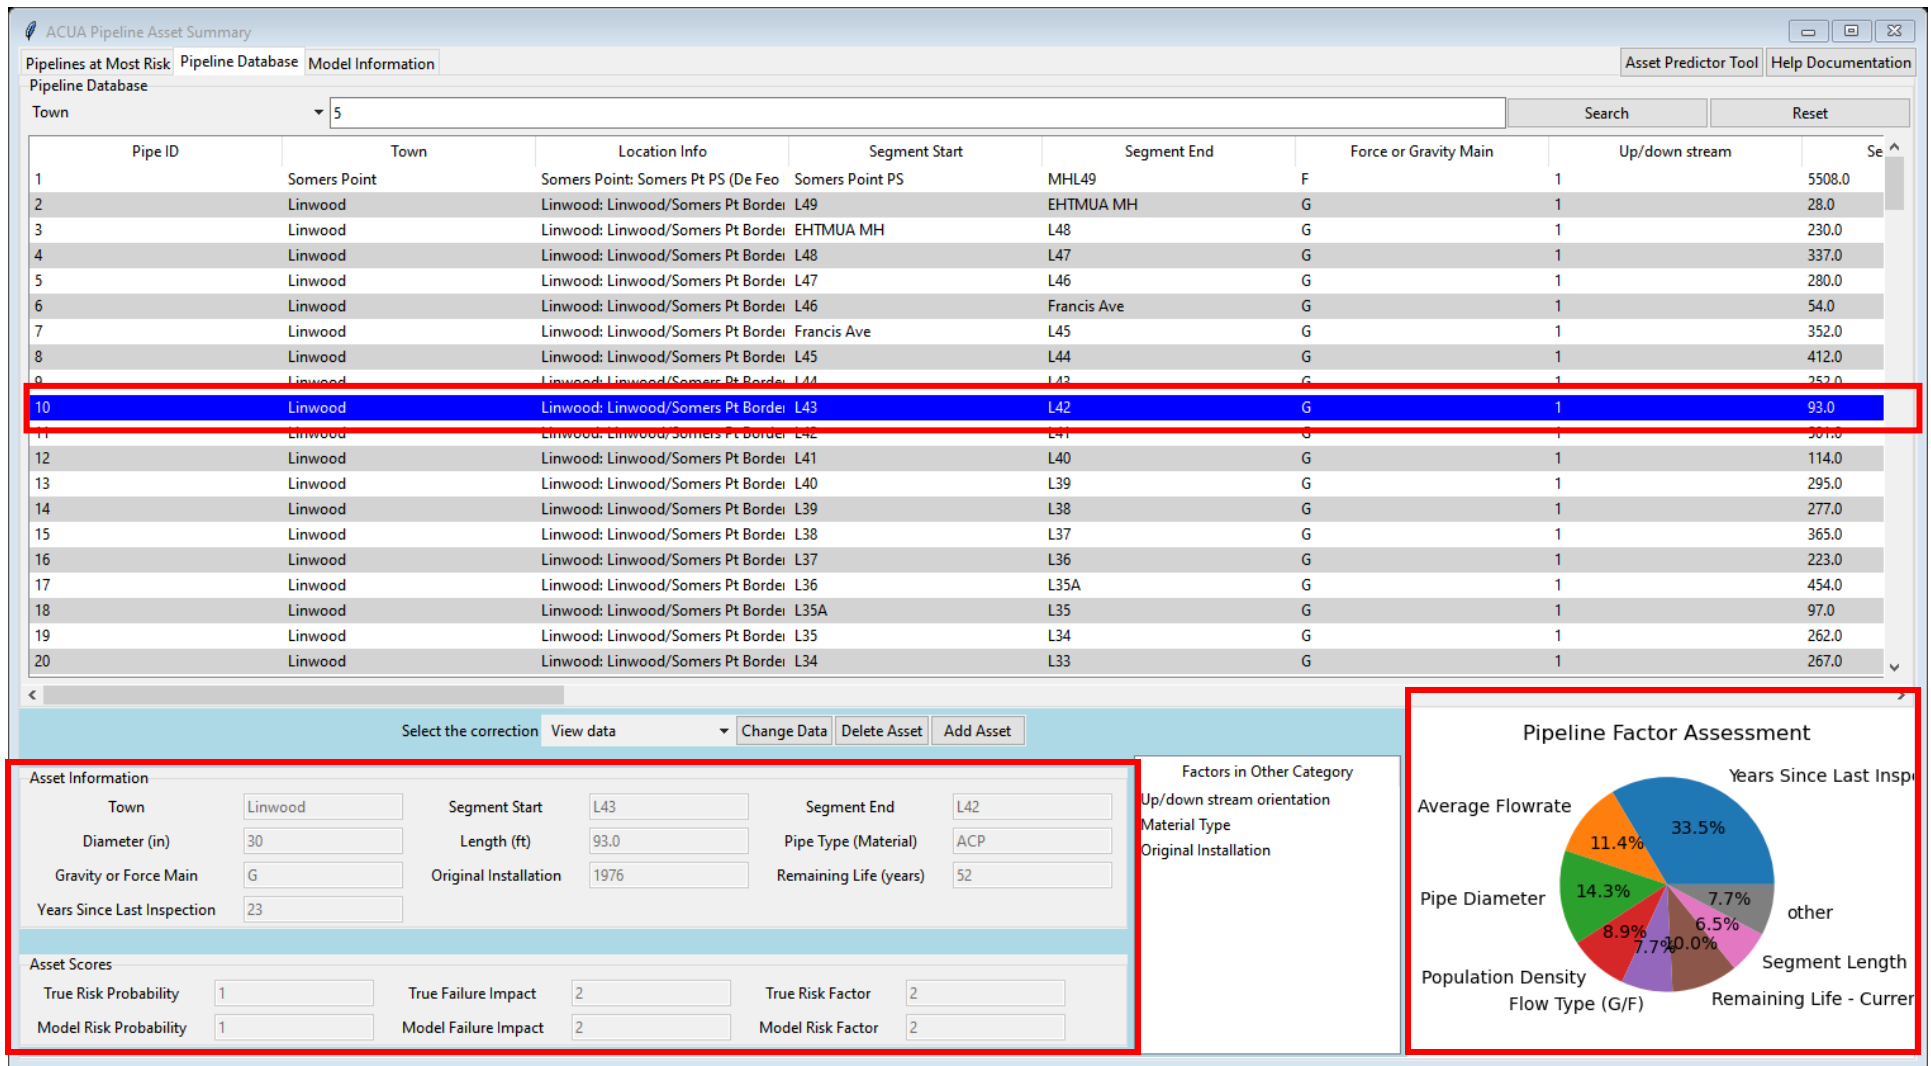

Figure 7: "Database Selection" function
- d. Figure 7 has a value of 7.7% in the other category. Therefore Up/down stream orientation% + Material Type% + Original Installation% = 7.7%
- a. If you correctly select the asset it should light up blue like in Figure 7